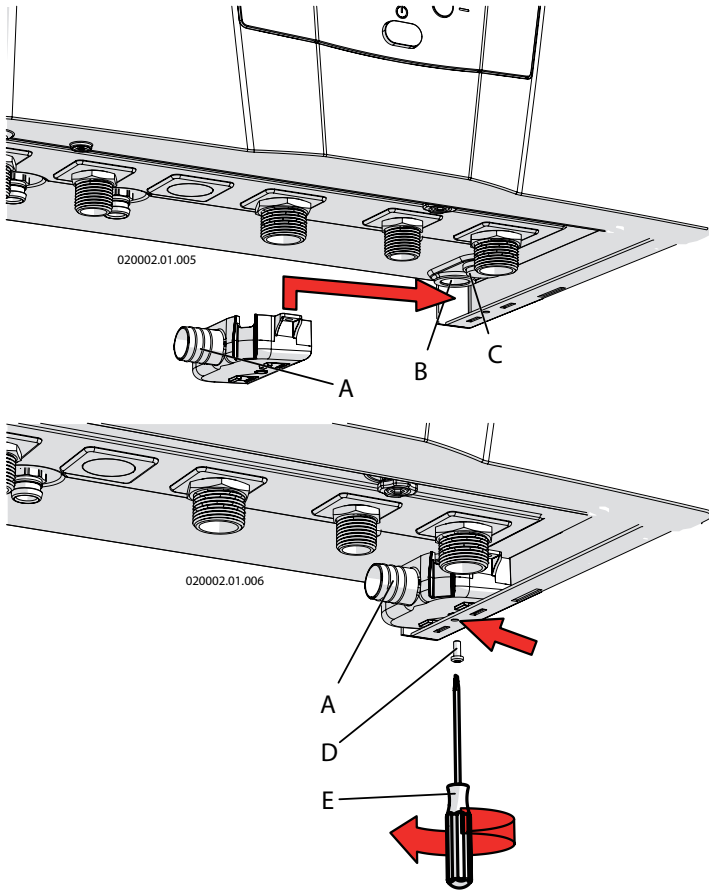
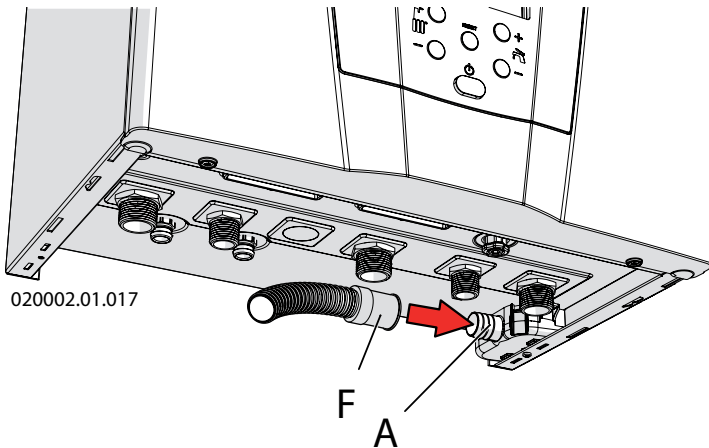
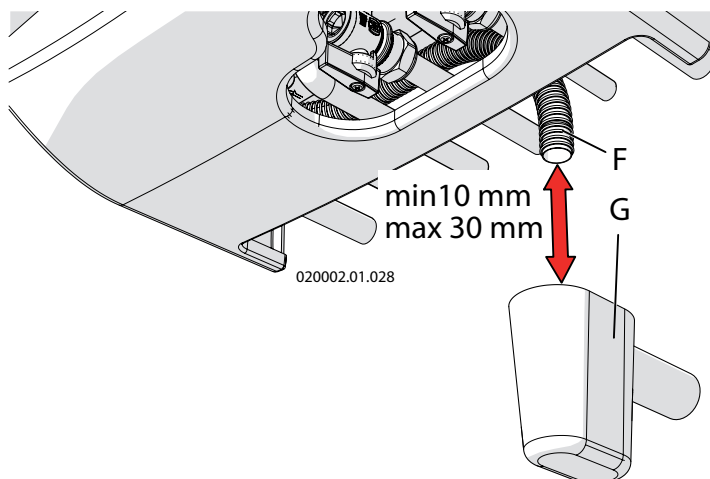

Figure 5-5 - Safety valve drain and condensate drain connection
Figure 5-6 - Condensate drain pipe
Figure 5-9 - F = condensing drain pipe
There is a siphon inside the appliance for the evacuation of condensate (see figures 3-2 and 3-4 detail "40") and to prevent combustion products from escaping, whose end corresponds to the pipe "B" in figure 5-5. This termination must be conveyed into an anti-odour siphon (figure 5-9 detail "G") to prevent bad odours returning into the environment (the anti-odour siphon "G" is supplied on request). The tank "A" is mounted in the factory as indicated in figure 5-5, the exhaust pipe "F" is mounted in the factory as indicated in figure 5-6. In particular, the condensate discharge must comply with the following:
- ☞ for room used for residential purposes and for office with more than 10 users, it can be connected to the domestic waste disposal plant by means of appropriate siphon with disjunction capable of preventing the pressurisation of the system (siphon prepared within appliance) and to prevent the return of bad odours from the sewer (detail "G" in figure 5-9). If the room used for office purposes has less than 10 users, before connection with the domestic waste drain, a condensate neutraliser is good practice (see section 9 for the value of acidity of the condensate and the quantities).
The appliance is protected against overpressures by a safety valve calibrated to 10 bar (see figures 3-1 and 3-4 detail "28"). The safety valve drain (detail "C" in figure 5-5), along with the condensate drain (detail "B" in figure 5-5) must be conveyed to a pipe "F" (see figure 5-6) with minimum internal diameter of 13 mm. The pipe "F" must be then taken to the anti-odour siphon (detail "G" figure 5-9). This drain with siphon is used to prevent overpressures if the valve is opened and makes it possible for the user to check the eventual intervention. The pipe "F" in figure 5-6 is supplied by standard along with the tank "A" in figure 5-5. The anti-odour siphon "G" in figure 5-9 is provided on request.